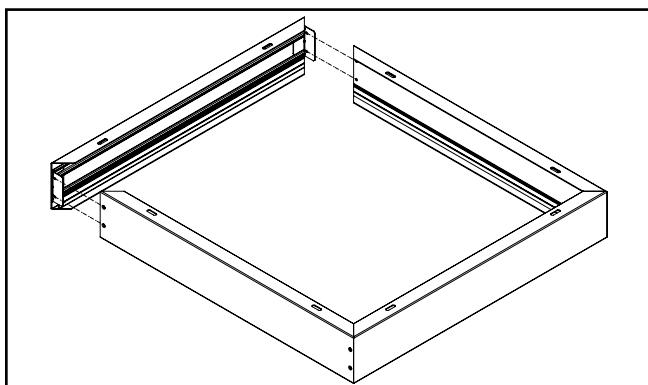

Figure 2.
- A2. Join a type "A" rail with the type "B" rails by inserting the protruding leg of each L-bracket into the corresponding slot on the type "B" rail. Repeat on the opposite side to form a rectangle. (Figure 2.)